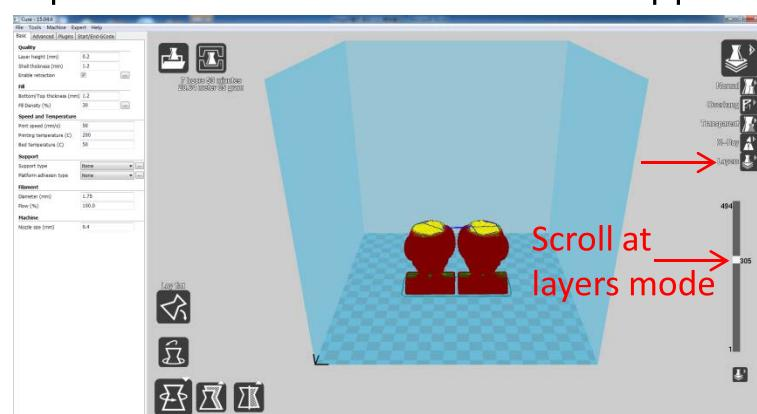

Figure 23
(6) View mode (Fig. 23): to view the model in different ways and helps to spotting issues before print starts. Such as “Layers” mode: to view the toolpath of the print head to check if there are skipped layers or gaps.